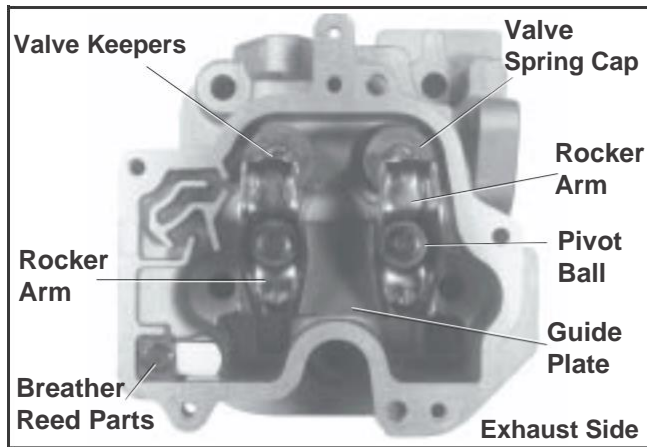
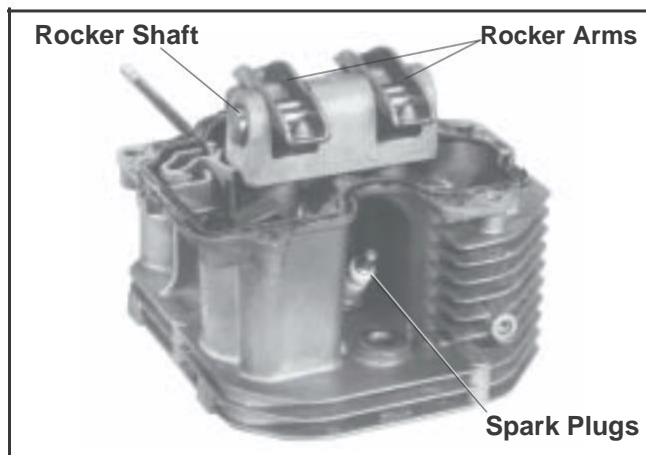

Figure 9-32. Head with Individually Mounted Pivots/Rocker Arm.
Figure 9-33. Removing Spark Plug and Rocker Arms.
Two basic types of heads are used. One type utilizes a rocker bridge arrangement as shown in Figure 9-33. The second type uses individually mounted rocker arm assemblies, with or without a guide plate, rather than a bridge. This type is shown in Figure 9-32. Components are unique to each style of head. Follow the appropriate procedure based upon the type of head configuration involved.
1. Remove the spark plug. See Figure 9-33.
3. **Rocker Bridge Equipped Heads** - Figure 9-33.
Heads with Individually Mounted Pivots/Rocker Arms - Figure 9-32.
- a. Compress the valve springs using a valve spring compressor. See Figure 9-32.